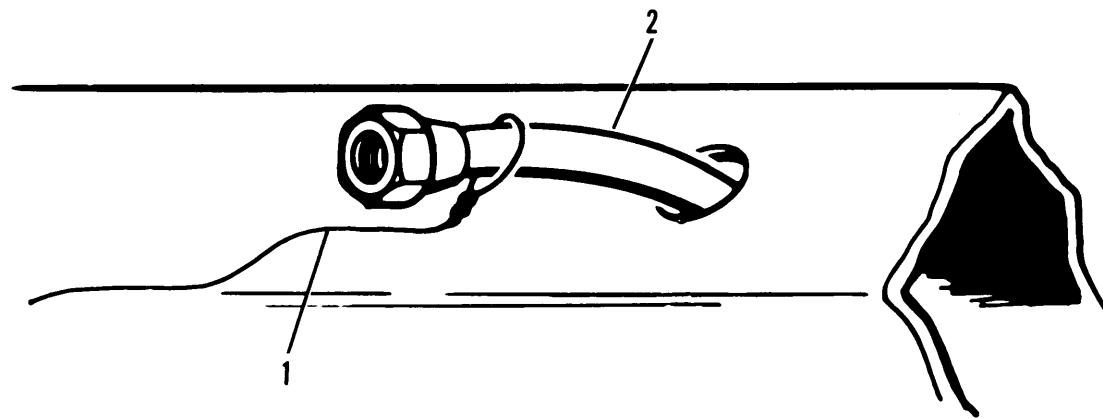

Figure 4-30. Air Lines
- (1) Short air lines.
- (2) Long air lines.
- (b) Tie a length of lockwire (1, fig. 4-30) to one end.
- (c) Pull the air line (2) and lockwire (1) out of frame. Do not remove lockwire as it is needed to install air lines.
(2) Long air lines.
(a) Tie the length of lockwire (1, fig. 4-30) that was used during removal to one end of the air line (2).